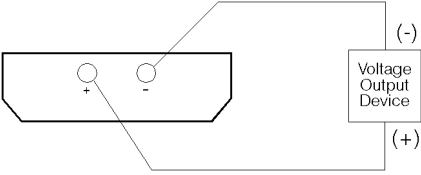

FIGURE 2 - Reading a Voltage Input
2. The CL210 can also be used to accurately read DC voltages on either the 100 millivolt or 10 volt ranges as shown in Figure 2.